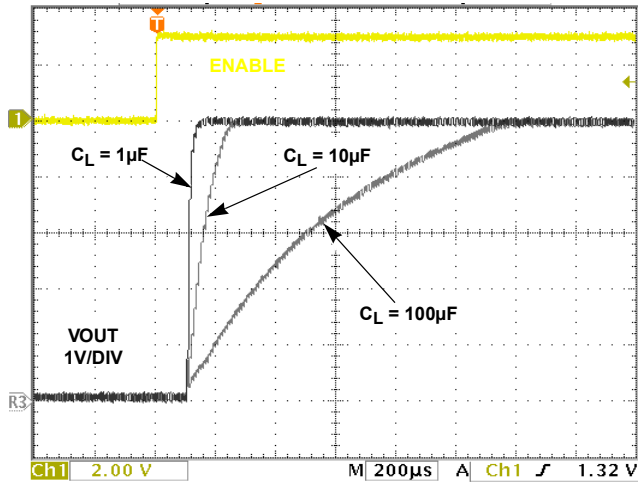

FIGURE 13. V_{OUT} TURN-ON/RISE TIME vs C_{LOAD} . $V_{IN} = 5V$, $R_L = 10\Omega$
The ISL6185 is a dual channel fully independent overcurrent (OC) fault protection IC for the +2.5V to +5V environment. Each ISL6185 incorporates in a single package two 85mΩ P-channel MOSFET power switches for power control. Independent enabling inputs and fault reporting outputs compatible with 2.5V to 5V logic allow for external control and reporting. This device features integrated power switches with current monitoring, accurate current limiting, reverse bias protection and current limited timed delay to turn-off for system reliability. See Figures 13 through 28 for typical operational waveforms including both under-current and over-current situations.
Upon proper bias of the evaluation platform and correct enabling of the IC, the ISL6185 will have a nominal $V_{IN}/10\Omega$ load current that is lower than the continuous current rating passing through each enabled switch. See Figures 13 and 14 for typical ISL6185 turn-on and turn-off waveforms.